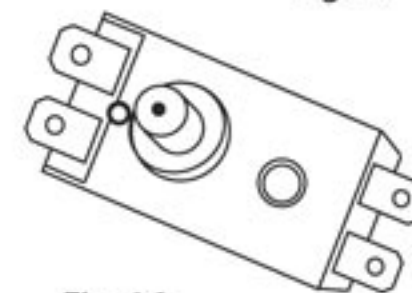

Fig. 16
- for RS1/RS2 series water heaters: unscrew retaining nut of the thermal switch, fastened on the flange of the heating element, turn over the thermal switch and press the button, located in the center of the thermal switch, until it clicks, Fig. 16;